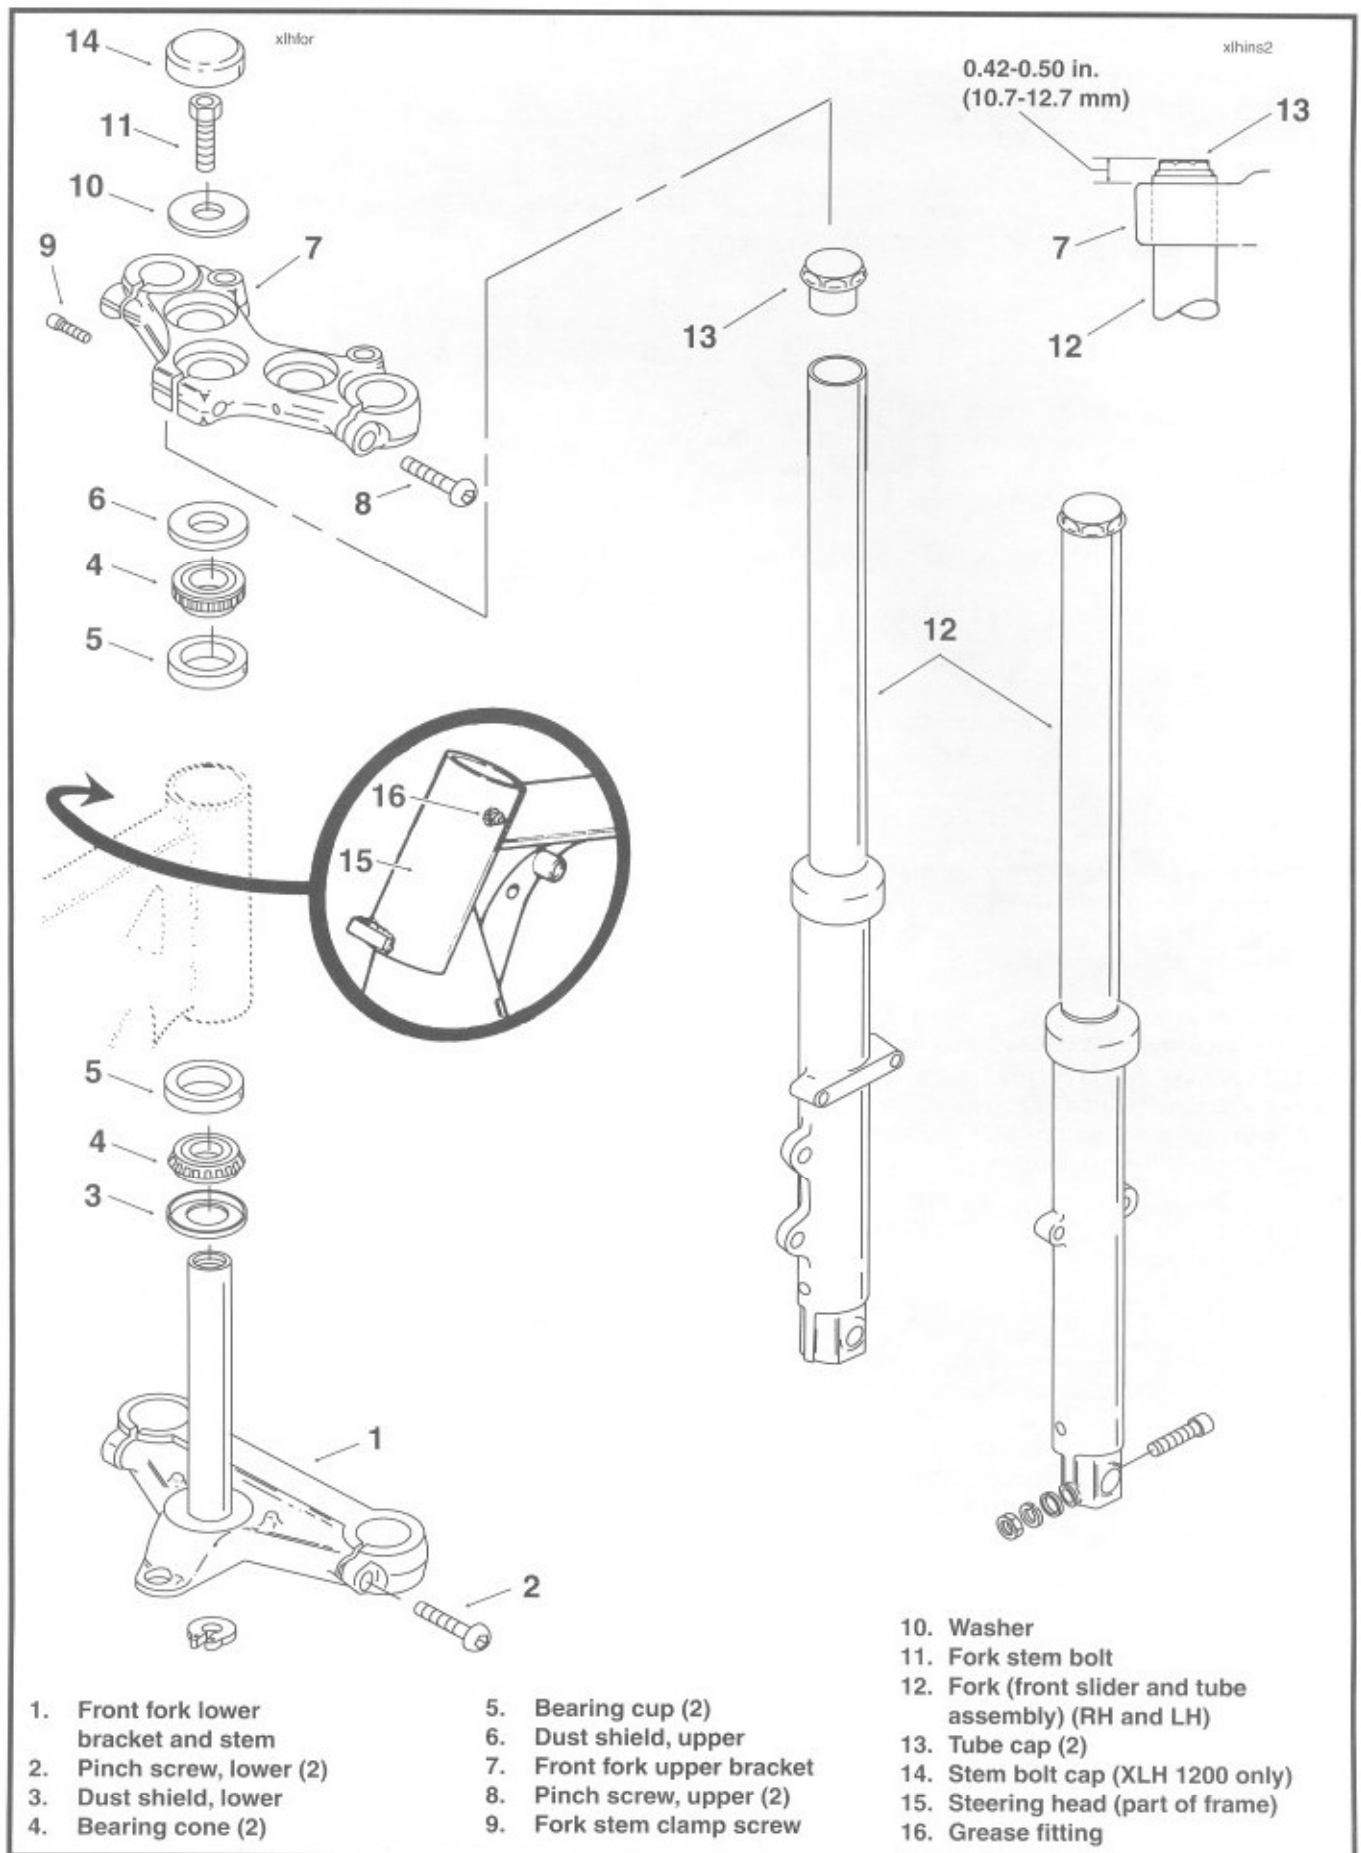

Figure 2-60. Front Fork Assembly
3. See Figure 2-60. Loosen front fork upper and lower bracket pinch screws (8 and 2).
4. Slide fork sides (12) downward to remove from front fork brackets (7 and 1).
## INSTALLATION (Figure 2-60)